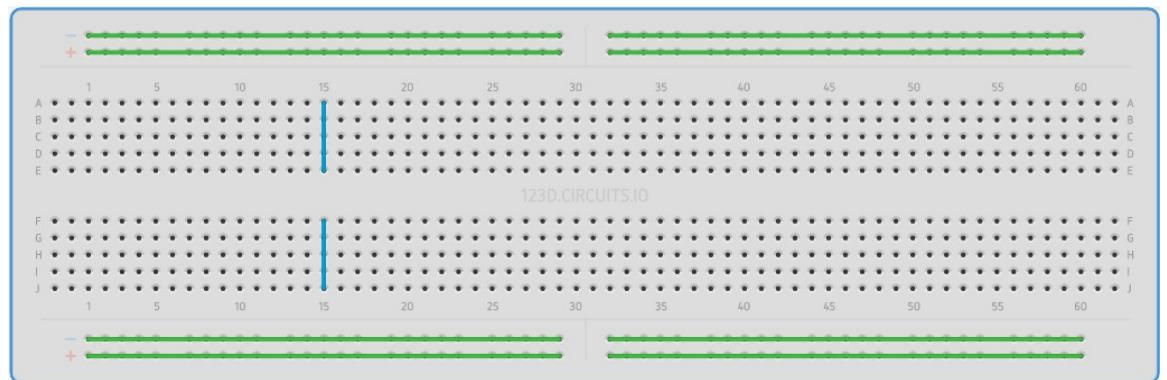

Figure 1.2.1.1: Breadboard
1.2.1. Connect the 5V pin of the Vaman-ESP to an extreme pin of the Breadboard shown in Fig. 1.2.1.1. Let this pin be  $V_{cc}$ .